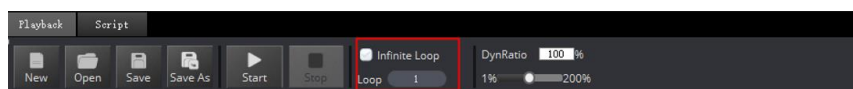

Figure 6.8 The loop number of the saved points list
- Set the loop number of the saved point when implementing playback. The maximum value is 9999. You can also select **Infinite Loop** to make the Dobot M1 in the infinite loop state when implementing playback according to the saved points list, as shown in Figure 6.8.